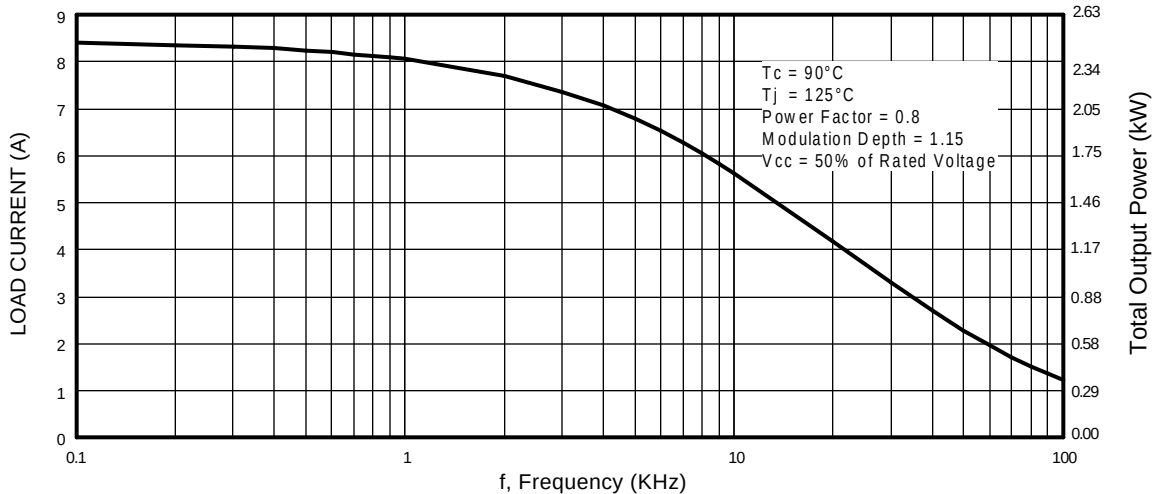

Fig. 1 - Typical Load Current vs. Frequency
- See Fig. 1 for Current vs. Frequency curve
11 A_{RMS} per phase (3.1 kW total) with T_C = 90°C, T_J = 125°C, Supply Voltage 360Vdc, Power Factor 0.8, Modulation Depth 115% (See Figure 1)